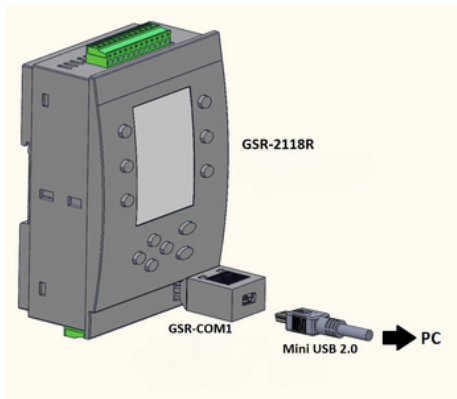

Figure 14: Utilizing GSR-COM1
- **As illustrated in Figure 14, the GSR-COM1 communication intermediary device is inserted into the PCOM Port socket, with the tabs on the lateral surfaces engaging the socket.**